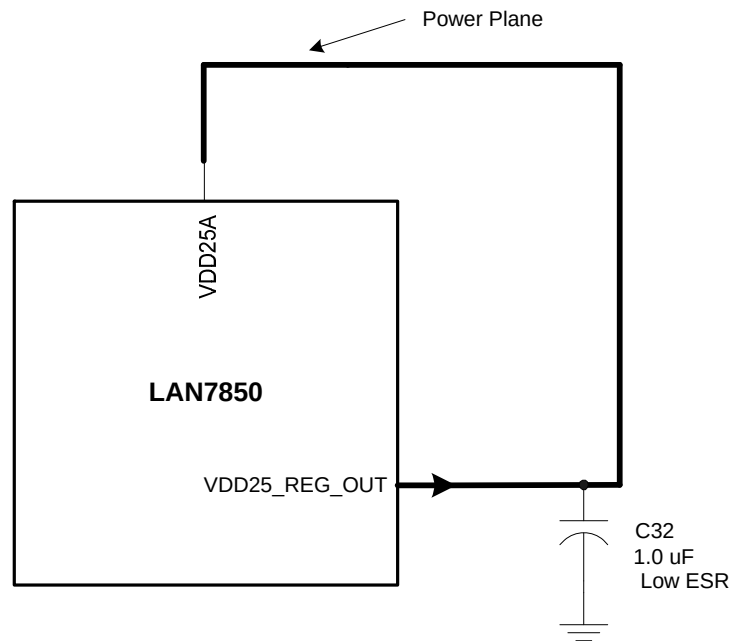

Figure 3 - LAN7850 +2.5V Power Connections
4. VDD25A (pins 3, 6, 9, & 12), these four input power supply pins should be powered from the internal +2.5V switching regulator. These pins power the Gigabit Ethernet Phy AFE. See figure 3 below for more details.